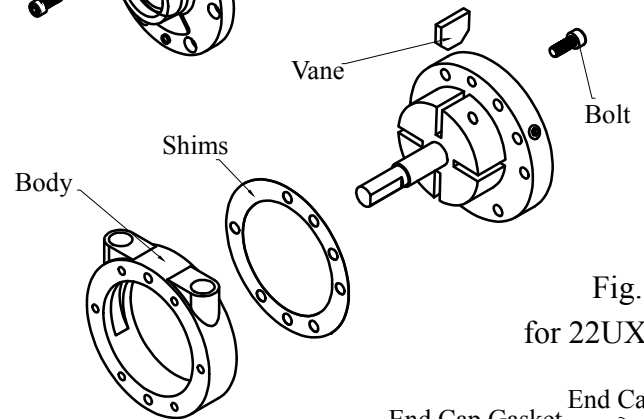
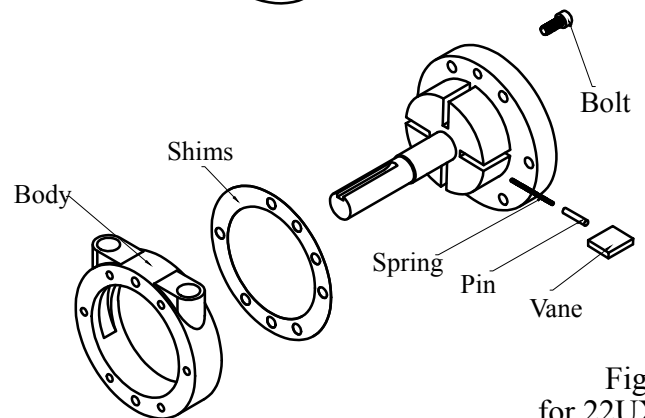
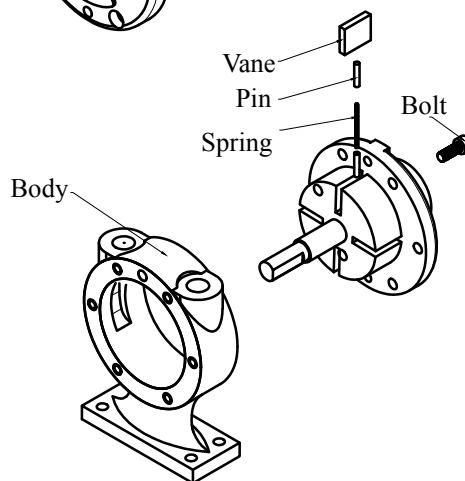

Fig. 2
Fig. 4
Fig. 6
5. Remove the body and vanes. Refer to fig. 2, fig. 4, fig. 6.